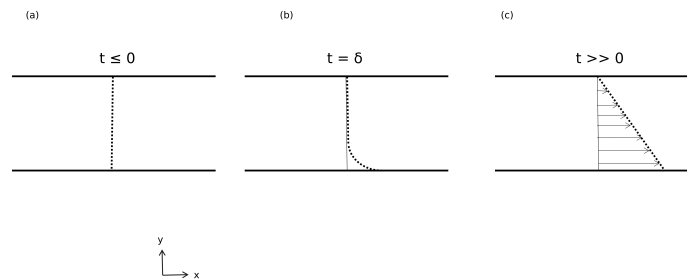

Figure 1.1: Fluid between 2 plates
- Consider two parallel plates : one placed at  $y = 0$  and the other placed at  $y = Y$  as shown in figure 1.1, with a static fluid between them. Here we assume
these plates are basically infinitely long and wide so that the fluid doesn't move. Figure 1.1(a) shows how the fluid velocity is 0 at every point between the two plates.
- Now, let us see what happens when we begin to translate the bottom plate to the right. Assuming there is no slip between the fluid and the plate, i.e. that the fluid that comes into contact with the solid is "stuck" to it. At the molecular scale, this is because we consider adhesive forces of attraction between molecules of the fluid and the solid are stronger than the cohesive forces of attraction among the molecules of the fluid themselves. So when we move the bottom plate, the molecules in contact with it start to move along. Figure 1.1(b) describes a snapshot of the system where the molecules "stuck" to the plate have just started to move but the molecules above them haven't been impacted yet.
- Over time, the fluid layers begin to pull each other and due to this, momentum gets imparted along the  $y$  direction. Figure 1.1(c) showcases the steady-state velocity profile of the fluid. Again, at the top plate the fluid doesn't move since the molecules are assumed to be "stuck" to the plate.